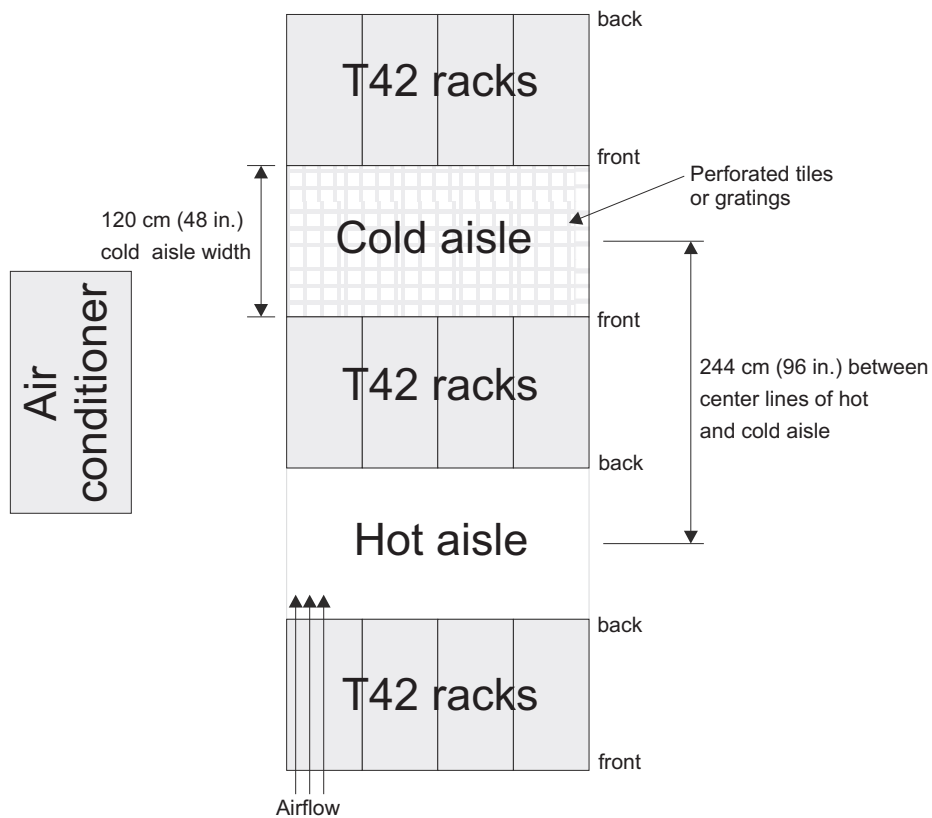

Figure 1-15. Example of cold aisle/hot aisle rack configuration
- Air enters at the front of the rack and leaves at the back. To prevent the air that is leaving the rack from entering the intake of another piece of equipment, you must position the racks in alternate rows, back-to-back and front-to-front. This arrangement is known as “cold aisle/hot aisle” and is shown in Figure 1-15 on page 1-20.
- Where racks are in rows front-to-front or back-to-back, gaps of at least 122 cm (48 in.) must separate the rows across the cold aisle (see Figure 1-15 on page 1-20).